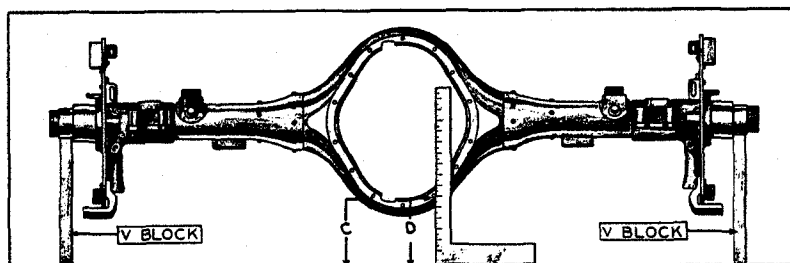

Fig. 115. Testing Rear Axle Housing—2nd Position
Turn the housing so that the flat sides are vertical as shown in Fig. 115. With a square, measure to the center of the hole (C) then again at (D). Revolve the axle 180° and take the same measurements. All four measurements should be within $\frac{1}{16}$ inch of each other.